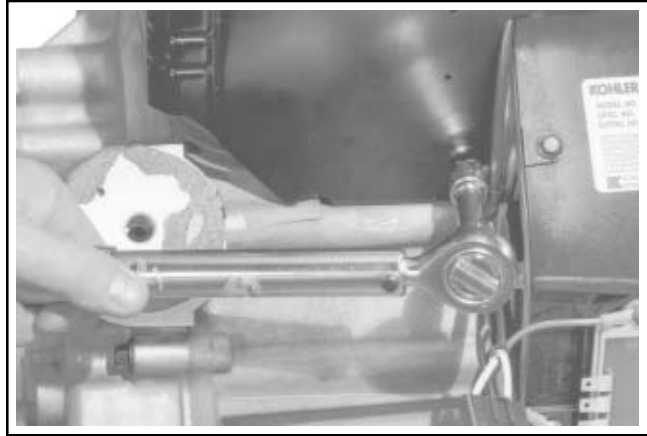
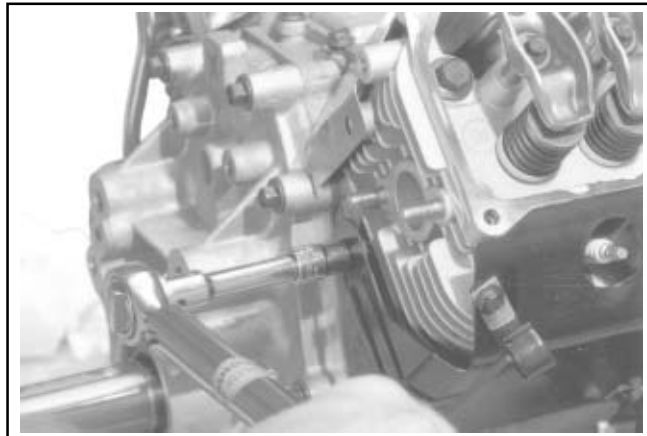

Figure 11-64. Tighten Short Screws to Torque Specified.
Figure 11-65. Tighten Baffle Mounting Screws.
- Tighten all of the shrouding fasteners. Torque the blower housing screws to **6.2 N·m (55 in. lb.)** in a new hole, or to **4.0 N·m (35 in. lb.)** in a used hole. Torque the shorter M5 side baffle screws to **4.0 N·m (35 in. lb.)**. See Figure 11-64. Torque the upper M5 side baffle screws (into cylinder head) to **6.2 N·m (55 in. lb.)** in a new hole, or to **4.0 N·m (35 in. lb.)** in a used hole. Torque the two rear M6 baffle mounting screws to **10.7 N·m (95 in. lb.)** in a new hole, or to **7.3 N·m (65 in. lb.)** in a used hole. See Figure 11-65.